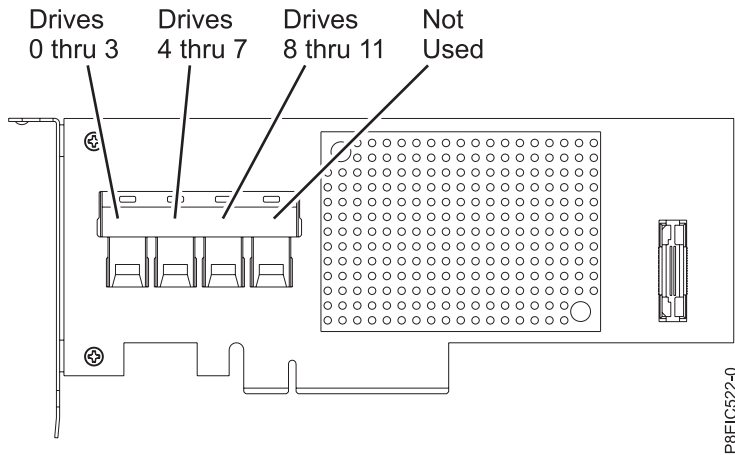

Figure 35. Cabling the PCIe3 low profile 6 Gb SAS/SATA RAID adapter (FC EC3Y - PMC 71605E)
- a. Connect the signal cables for the disk drive to the RAID adapter before installing the adapter. See Figure 35 on page 57.